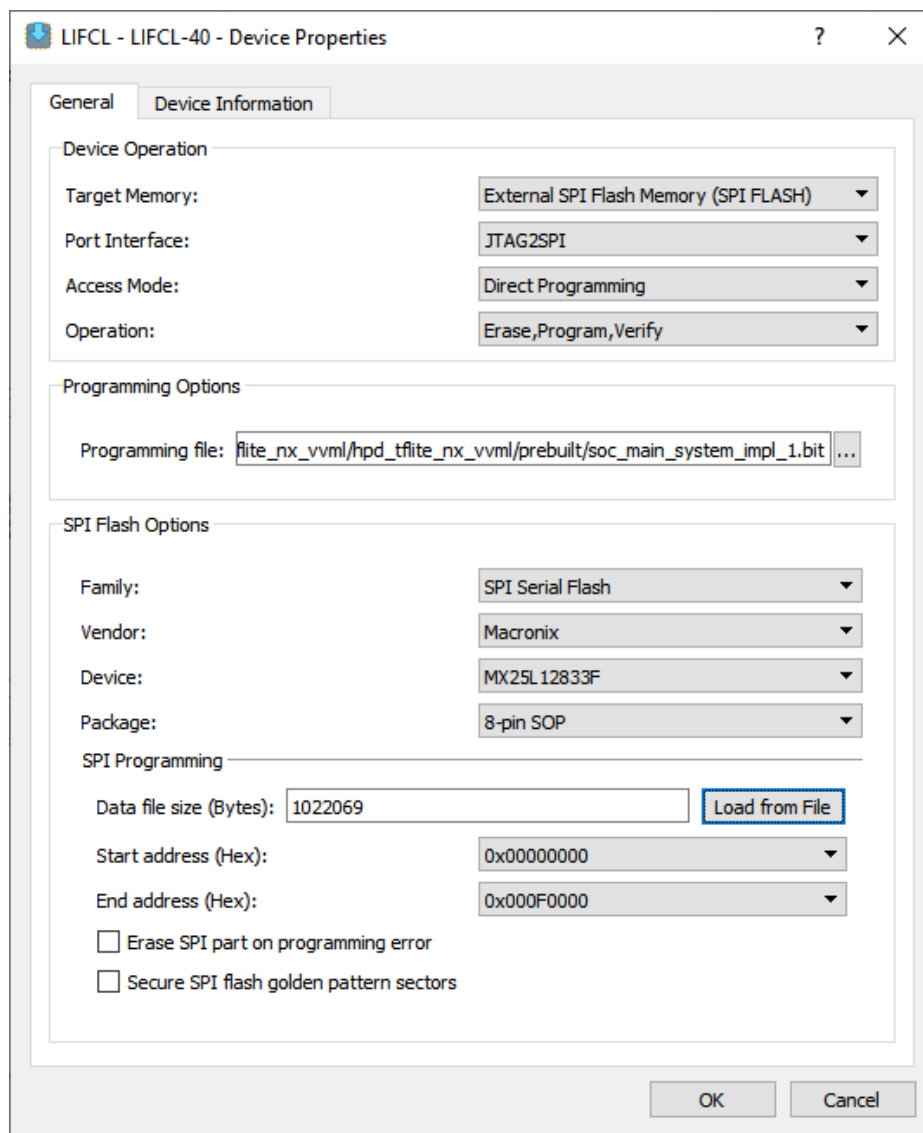

Figure 4.5. Radiant Programmer – Device Properties to Flash Bit File
- c. For **SPI Flash Options**, make the selections as shown in Figure 4.5.